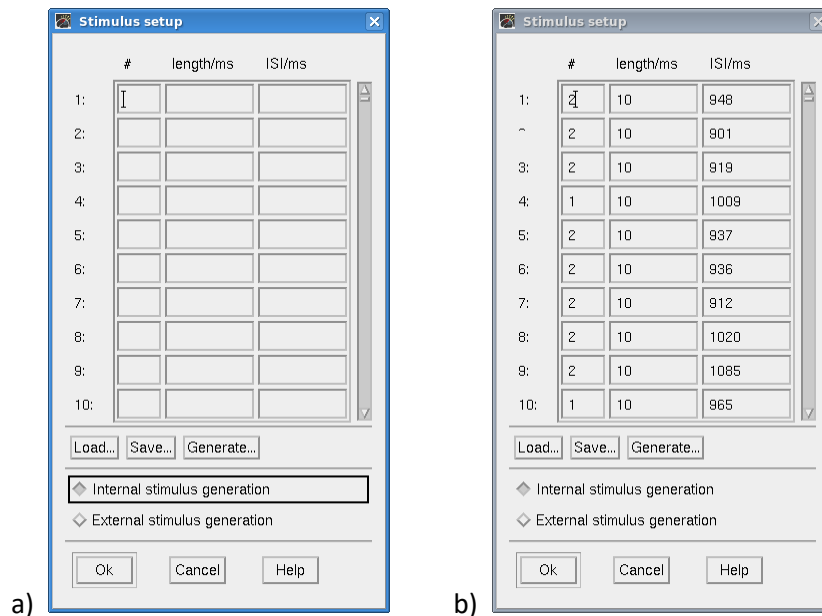

Figure 26. a) Select internal stimulus generation. B) Generated random-ISI sequence.
- Use the acquisition control panel to set the SEF parameters. Select **Internal stimulus generation** and press **Generate...** (Figure 26).